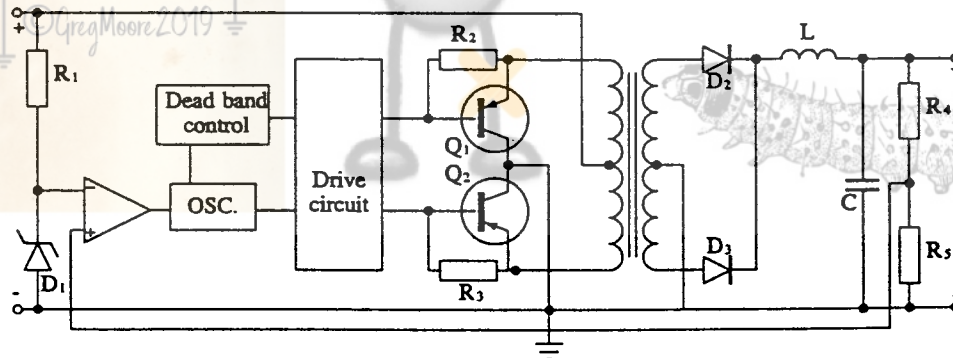

Fig. 2
- Refer to the circuit in Fig. 2. This block diagram is described as:
4. Refer to the circuit in Fig. 2. The block marked 'dead band control' is needed to:
5. Refer to the circuit in Fig. 2. The effect of DC on the transformer is minimised in this circuit because: